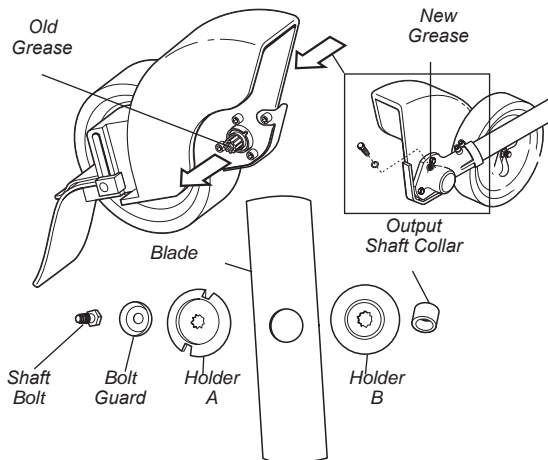

Figure 12
- Remove the shaft bolt, bolt guard, holder A, blade, holder B, and the output shaft collar. Press new grease into the gearcase until the old grease has been pushed out. Use only lithium-base grease such as Swisher Gearcase Lubricant or equivalent. See Figure 12.